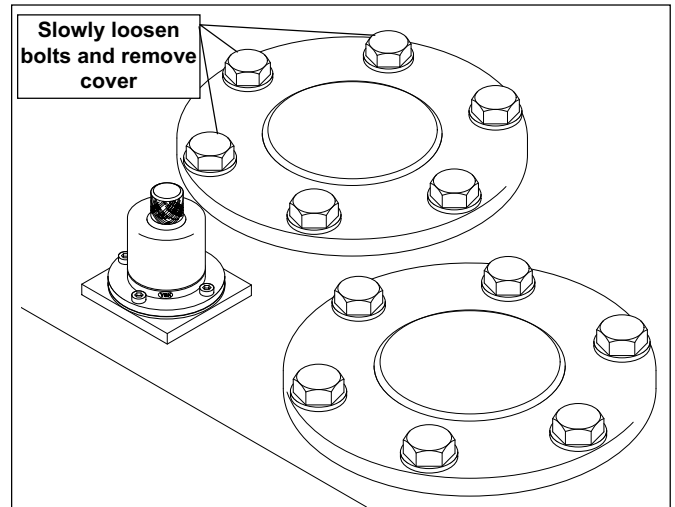

FIGURE 4.30B
2. Remove the six mounting bolts from the hydraulic return cover plate. See Figure 4.30B.